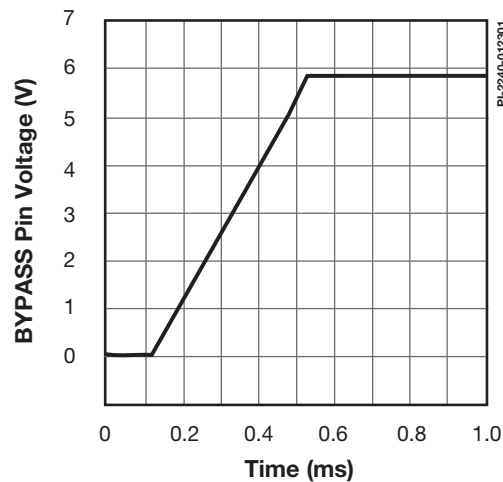

Figure 15. BYPASS Pin Start-up Waveform.
- See Typical Performance Characteristics section Figure 15 for BYPASS pin start-up charging waveform.